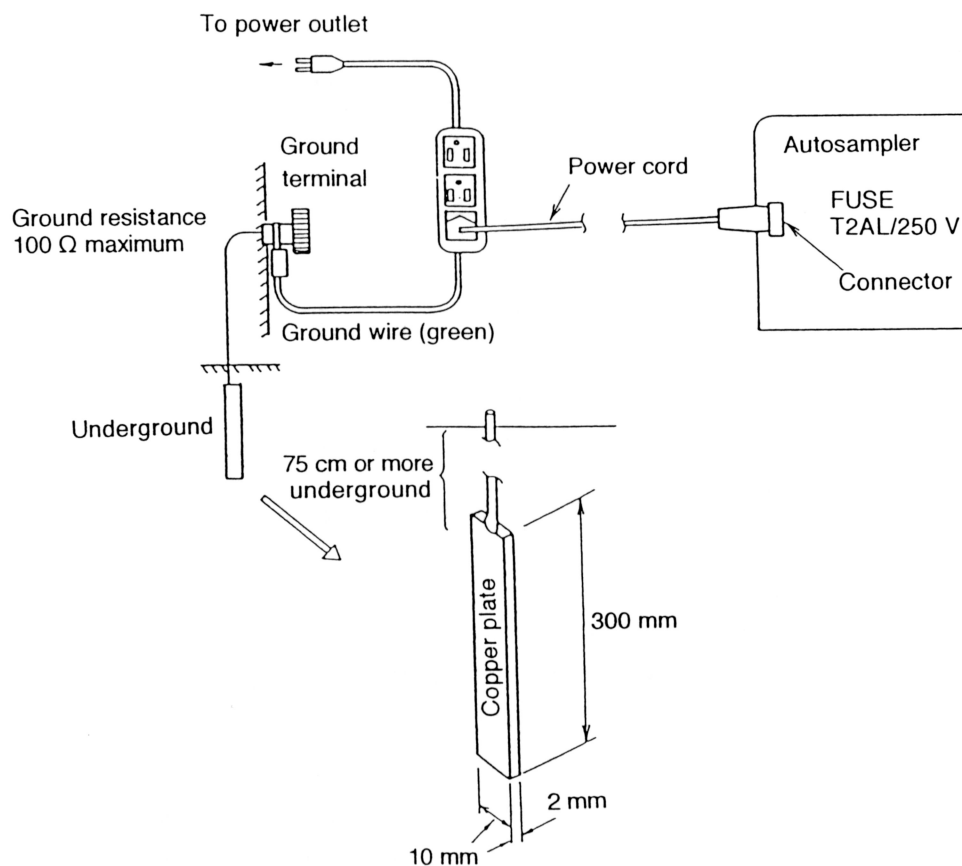

Figure 4-8 Grounding
- If a grounded 3-wire outlet is not available, then be sure to provide proper grounding connection as shown in Figure 4-8.